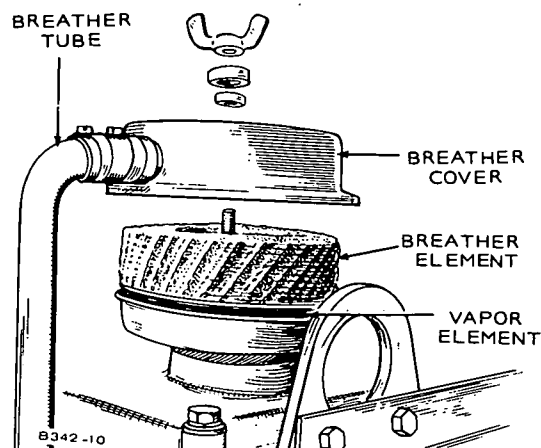

FIGURE 29. CRANKCASE BREATHER FILTER
1. Remove wing nut, flat-washer and rubber washer holding cover, lift cover and swing away from filter assembly (see Figure 29).